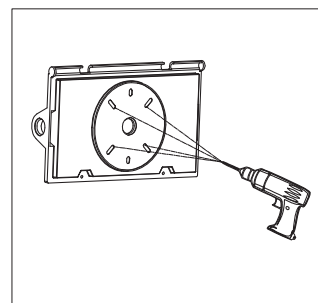
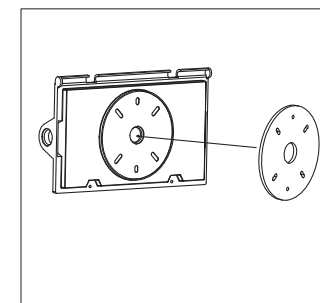

Figure 3
Figure 4
Step 2: Drill an installation holes at the bottom of light, paste the EVA mat (Figure 3 & Figure 4)